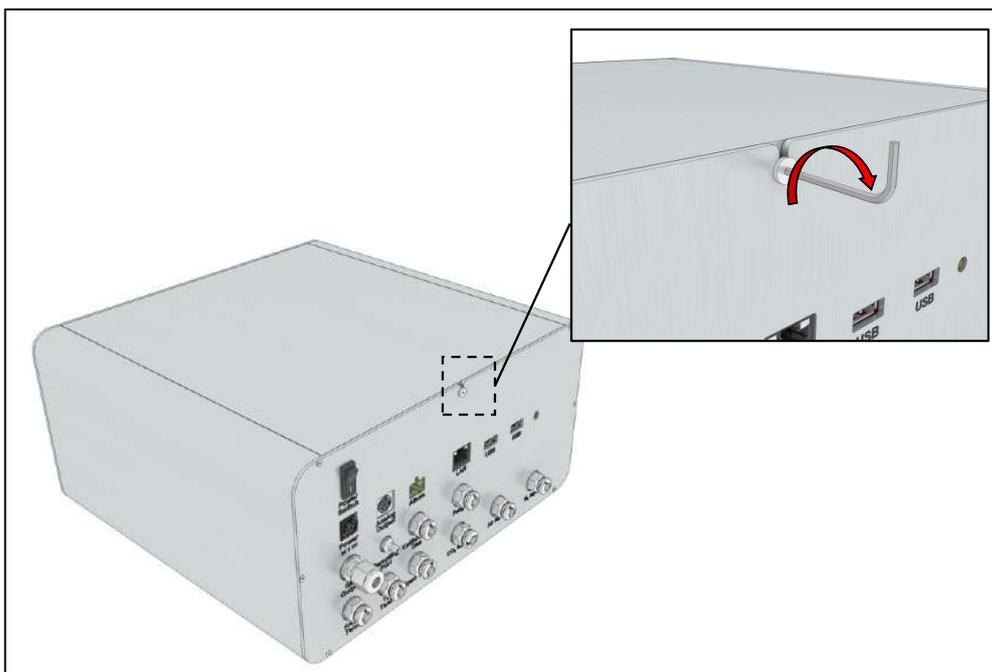

Figure 138. Cover repositioning
8. Tighten the screw clockwise by using a hexagonal key (1.5mm) as shown in Figure 138.